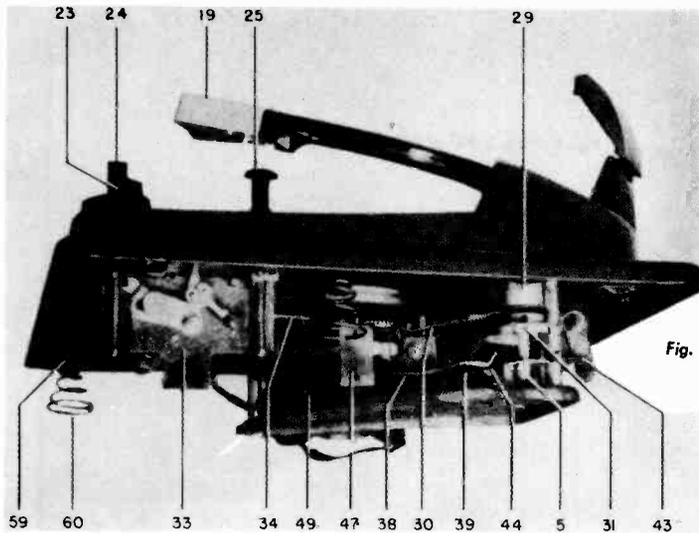

Fig. 3. Right Oblique View of Bottom of Changer
2. Pick-up arm shaft (5), see Figure 3. Apply one drop each to bottom bearing point, bracket hole, and hole through main base plate.
4. Pick-up arm raising lever (38). Apply to edge lifting disk hub (31). See Figure 3.